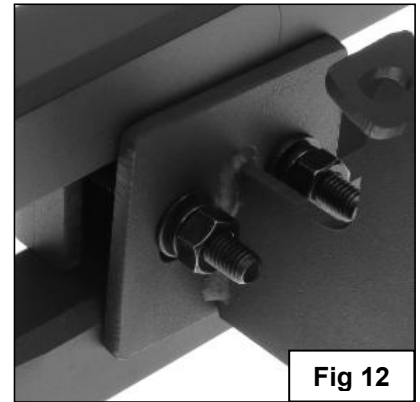
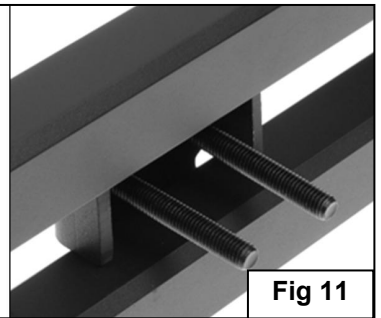

Fig 12
Fig 11
8. Select the Driver Side Bar. Slip (2) M10X1.5-75 Carriage Bolts into each 2-Hole Support Brackets, and insert the 2-Hole support bracket into the Driver Side Bar.(Fig 11). Carefully position the Bar onto the (4) Mounting Brackets. **IMPORTANT:** Do not slide the Bar on the Brackets or damage to the finish may result. Attach the Driver Side Bar to the Mounting Brackets with (2) M10 Hex Nuts,(2)10mm lock washers and (2)10mm flat washers, (Fig 12). Do not tighten hardware.